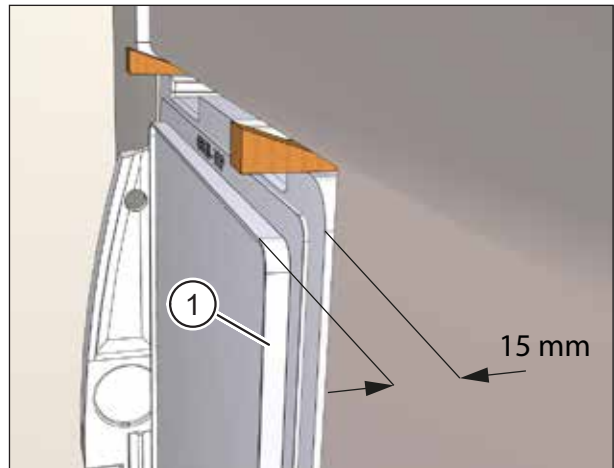

Fig. 23: Depth of plastering trim 15 mm
The plastering trim is 15 mm deep (see Fig. 23).
- ▶ If the interior wall is not perpendicular or flat, align the front surface of the plastering trim (item 1 in Fig. 23) parallel to a plaster stop bead running vertically.